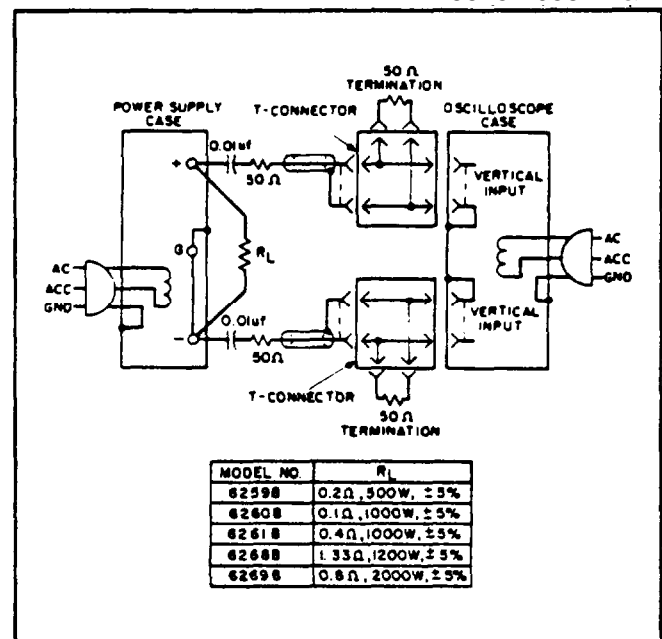

Figure 5-4. Noise Spike Measurement Test Setup
1. As shown in Figure 5-4, two coax cables must be substituted for the shielded two-wire cable.
5-26 The circuit of Figure 5-4 can also be used for the normal measurement of low frequency ripple: simply remove the four terminating resistors and the blocking capacitors and substitute a higher gain vertical plug-in in place of the wide-band plug-in required for spike measurements. Notice that with these changes, Figure 5-4 becomes a two-cable version of Figure 5-3B.